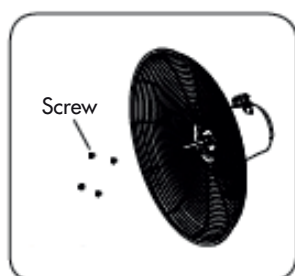

Fig. 1
1. Remove the fan and grille nuts by turning the first of these clockwise and the second anticlockwise. Fit the rear grille in the correct position (handle upwards) and tighten the nut until the grille is held firmly (fig. 1).